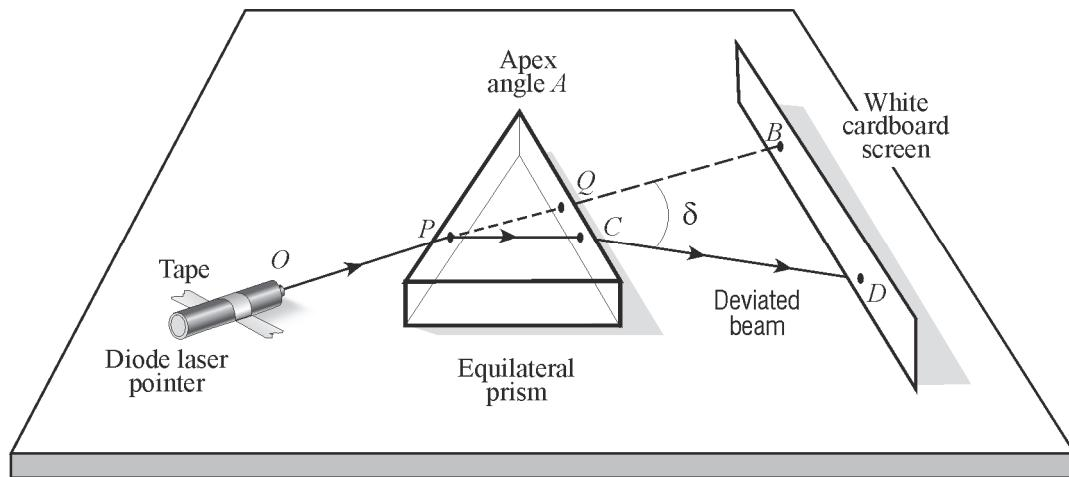

Figure 29 – Minimum Angle of Deviation Set-up
1. Arrange the laser diode module (LI-1), equilateral prism (LI-2), and a white cardboard screen made from “Index Cards” (LI-3) on a flat tabletop as shown in Figure 29 and Figure